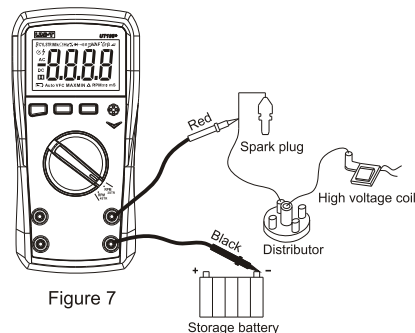

Figure 7
- 2) Connect the red test lead to "V" terminal, and black to "COM". Connect the test end as figure 7.